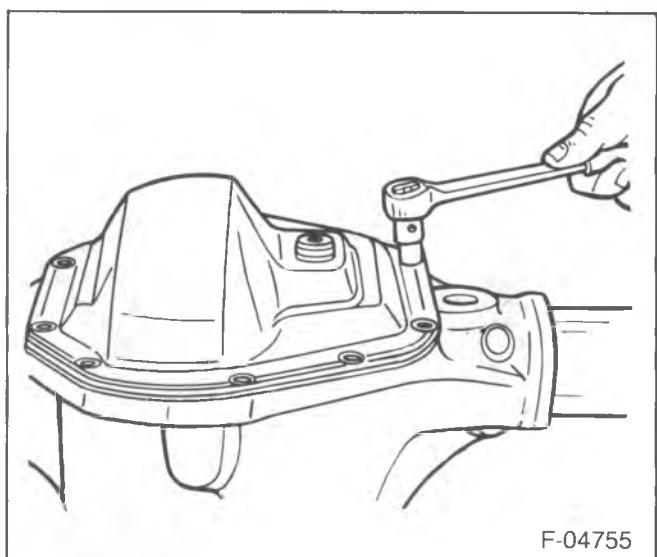

Figure 41—Installing the Axle Cover
- Axle cover (14) to the housing (figure 41).